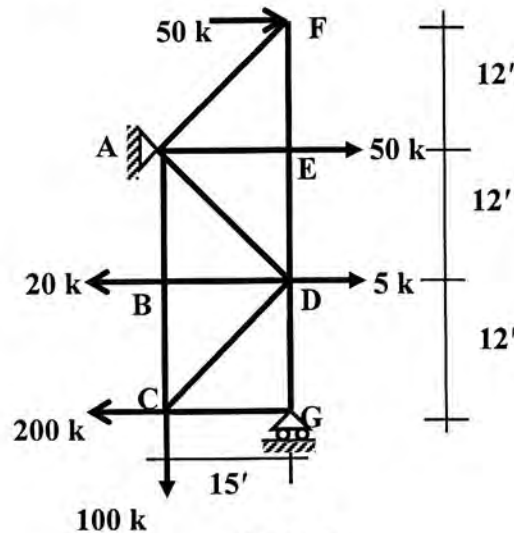

Figure 4
- [4] Determine the **Horizontal (rightward) and Vertical (downward) deflection of joint D** of the truss shown in Figure 4 by using the Virtual Work Method. Consider, $E = 29 \times 10^3$ ksi, truss members area $A = 2.5$ in² except member AE which has an area of 4 in².